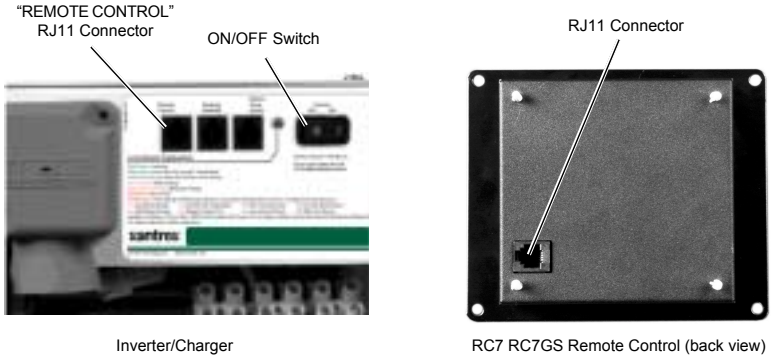

Figure 3
5. Connect the communications cable into the RJ11 port on the inverter/charger marked "REMOTE CONTROL." Connect the other end of the cable into the jack on the remote (Figure 3).